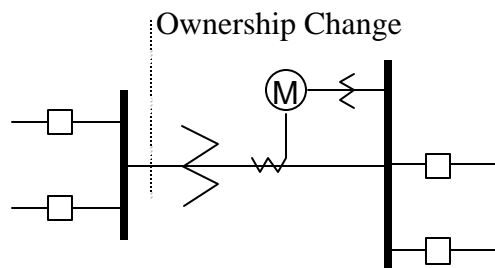

Figure B.1: Low Voltage Metering Installation Requiring Loss Compensation
- Loss compensation may be used in any instance where the physical location of the meter does not match the electrical location where change of ownership occurs. Most often this appears when meters are connected on the low voltage side of power transformers when the actual ownership change occurs on the high side of the transformer. This condition is shown pictorially in Figure B.1.